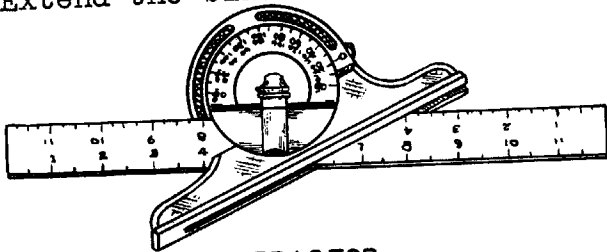

FIG. 8 BEVEL PROTRACTOR
2. Extend the blade to the required length and tighten (Fig.8).